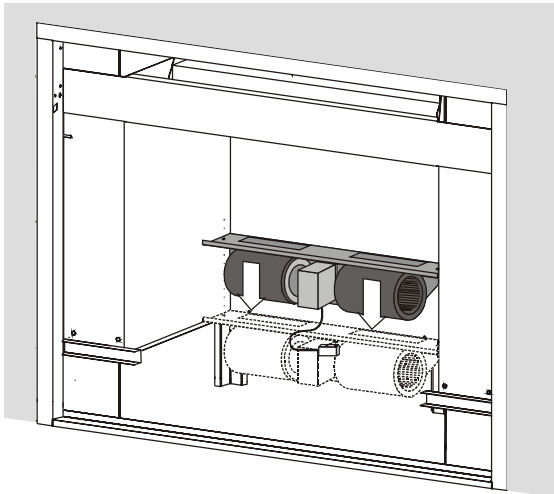

Figure 17. Installing the blower assembly.
7. Install the new blower assembly included with the S2 Heating Insert. The blower mounting bracket rests on the EP28 Shell's support ledges. Push the assembly back until it touches the back wall of the shell, and drive two screws through the pilot holes in the bracket. Refer to figure 17. Plug the fan into the fan speed control box.